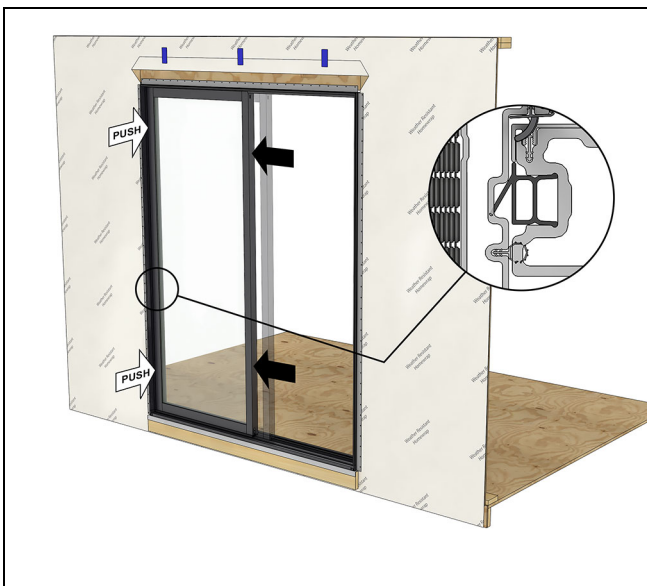

Figure 71
2. Slide the panel over to the jamb. Press on the stile to make sure the panel retainer is still engaged. See Figure 71.